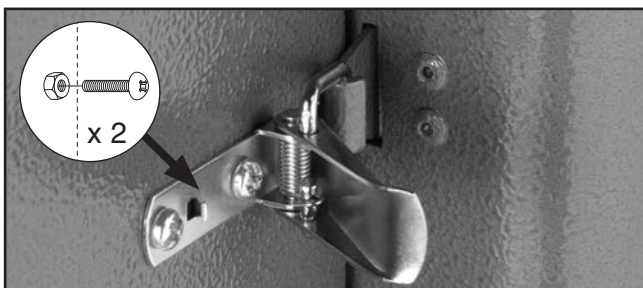

Figure 22. Latch installed.
- Attach latch to motor cover with (2) #8-32 x $\frac{3}{8}$ " Phillips head screws and (2) #8-32 hex nuts, as shown in **Figure 22**.